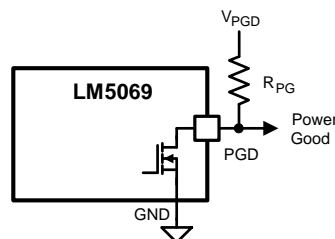

**Figure 35. UVLO = POREN with Shutdown/Restart Control**
**Option C:** The minimum UVLO level is obtained by connecting the UVLO pin to VIN as shown in Figure 35. Q1 is switched on when the VIN voltage reaches the POREN threshold ( $\approx 8.4V$ ). An external transistor can be connected to UVLO to provide remote shutdown control, and to restart the LM5069-1 after a fault detection. The OVLO thresholds are set using R3, R4. Their values are calculated using the procedure in Option B.